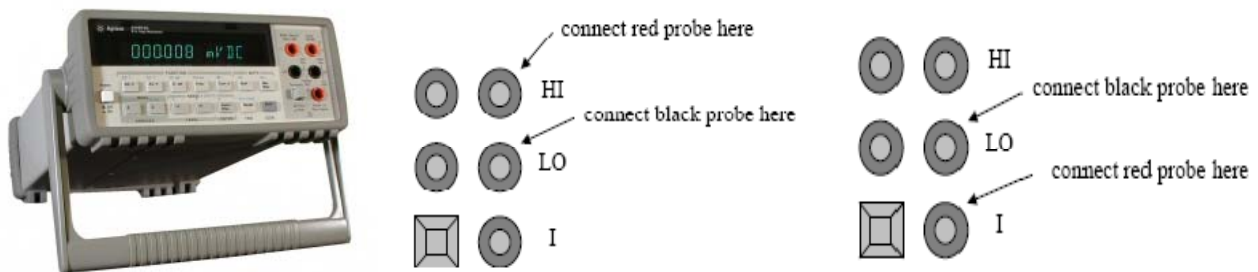

Figure 4(a)- Digital Multimeter (HP34401A), 4(b) - Measuring Voltage 4 (c) – Measuring Current
For all our intended purposes, we will be working with DC (direct current) voltage (V) and current (A). To measure the voltage, connect the leads as shown in Figure 4 (b). To measure current, connect the leads shown in Figure 4 (c) and then press the “Shift” key + “DC V” key. To measure resistance, use the same configuration for leads as measuring voltage; however press the 2W key on the DMM to change to measuring in resistance units.